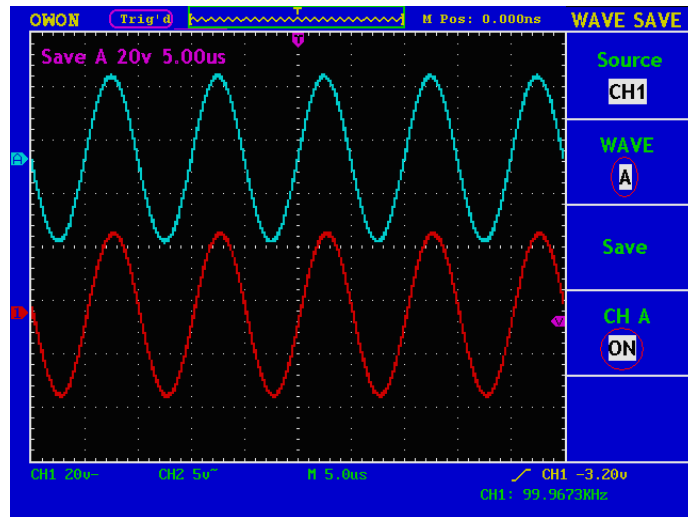

Fig.63 Wave Saving
- Press F2 next to Wave to select from one of four locations, the CH(X) would show the location you've chosen.
- Press F4 next to CH(X) to change to ON. Now you will see a stored waveform displayed on the screen with whatever waveforms are already on there.
- Example to save/recall a waveform from location A. **Fig.63.**